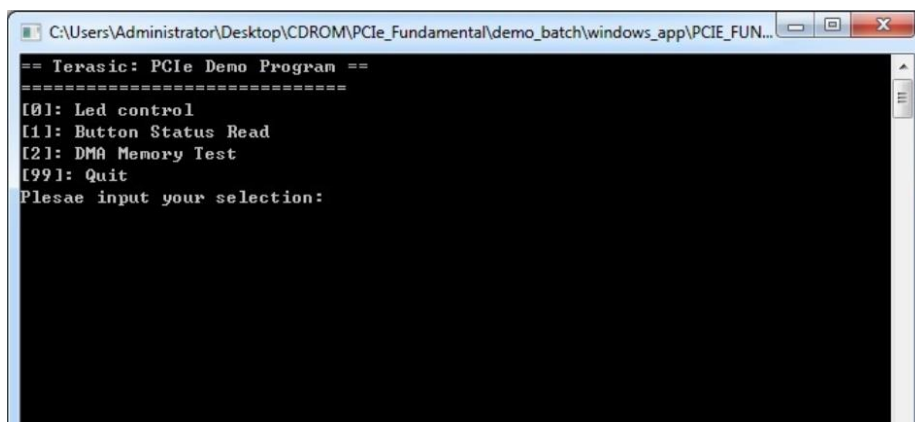

Figure 7-11 Screenshot of Program Menu
7. Goto windows_app folder, execute PCIE_FUNDAMENTAL.exe. A menu will appear as shown in **Figure 7-11**.